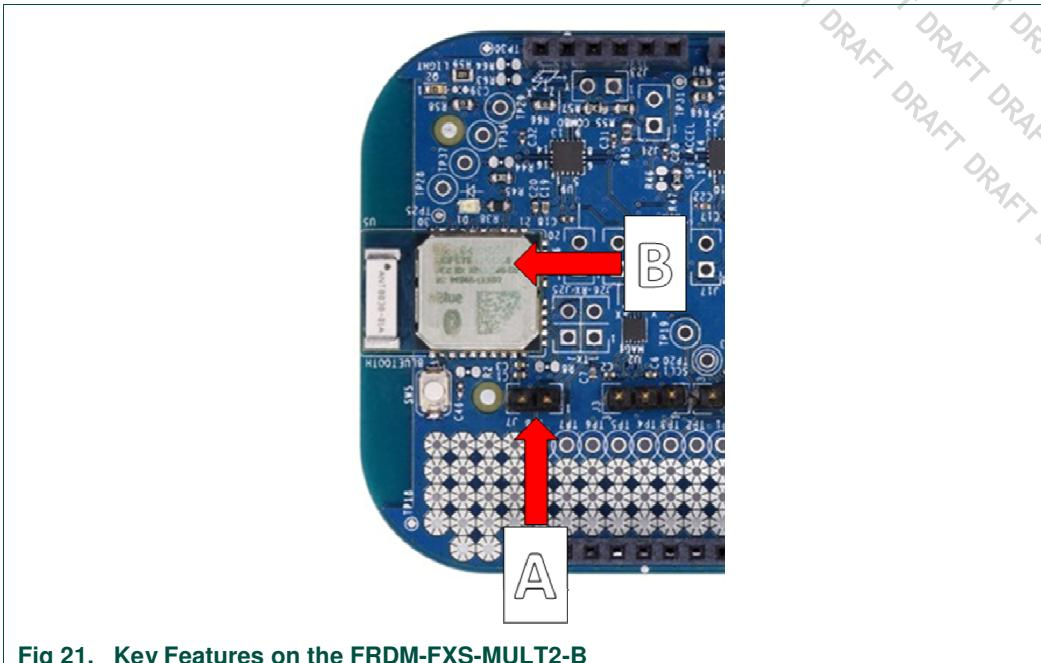

Fig 21. Key Features on the FRDM-FXS-MULT2-B
5. Power up your sensor board. Ensure that the power jumper next to the Bluetooth module is installed ("A" in Fig 21).
6. FRDM-FXS-MULTI-B and FRDM-FXS-MULT2-B boards utilize Bluetooth modules from BlueRadios. Note the last six digits on the second line of the radio module ("B" in Fig 21).